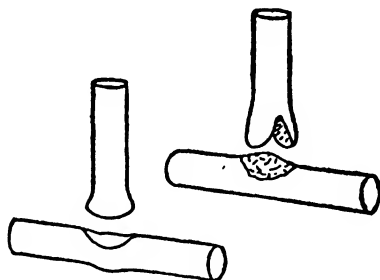

FIG. 47. T-weld in round stock.
20. If a T-weld is to be made in round stock upset the pieces as in the case of flat stock. Prepare the scarf on the bar of the T with the peen of the hammer, fuller, or bob punch. Scarf the end of the leg of the T to fit the scarf on the bar, Fig. 47. Proceed to weld as in the case of flat stock. Use a top fuller to weld down corners and projections. Finish with swage blocks. A T-weld in round stock may be made also by splitting the end of the stem of the T and proceeding the same way as in a cleft weld.